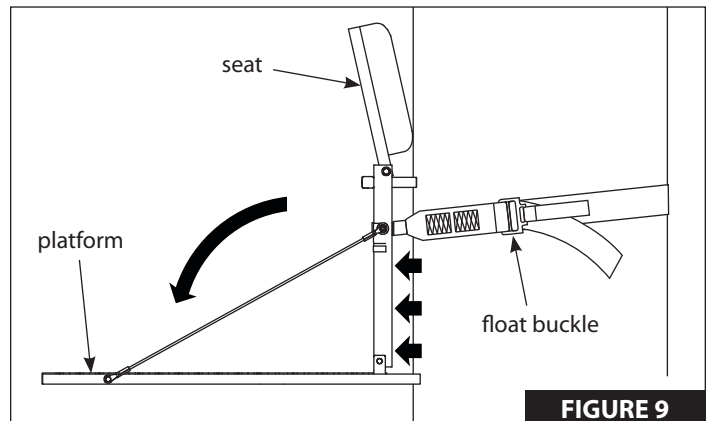

FIGURE 9
e. Once securely attached, pivot the platform down. This lever-action will snug stand up tight to tree to prevent any shifting. Redo as necessary to accomplish a snug stand-to-tree fit. All four contact bars must be touching tree! **SEE FIGURE 9.**